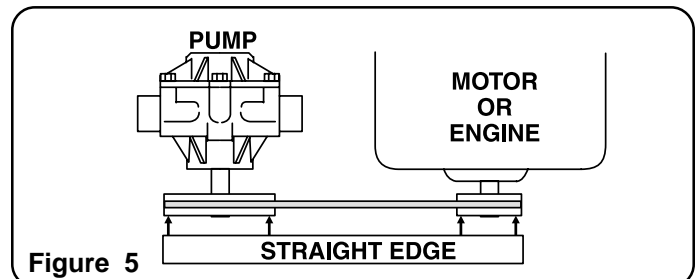
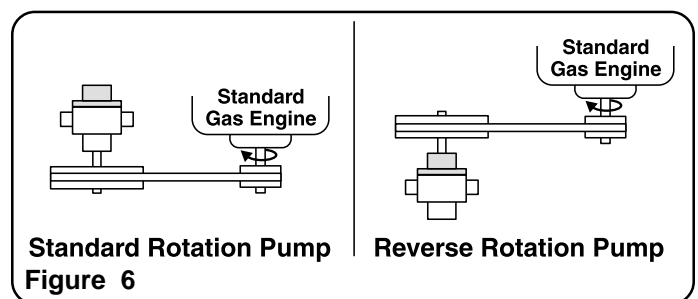

Figure 5
Figure 6
1. Install pulley or bushing/sheave combination (See Figure 5) onto pump and motor shaft. Mount pump next to the motor making sure pulleys are lined up properly (See Figure 6 for proper pump and motor orientation). Use a straight edge as shown. Rotate to check for run-out and bent shafts.